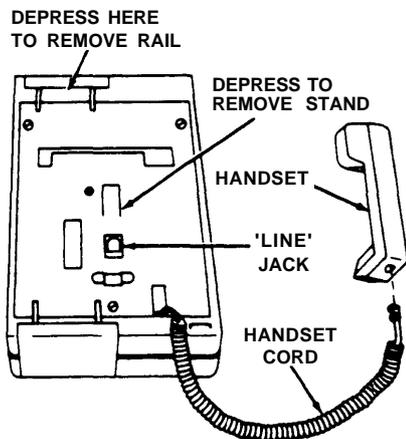

Figure 2
2. Turn voice terminal upside down and plug one end of handset cord into jack labeled with the drawing of the handset beside it (see Figure 2).
3. Plug the loose end of the handset cord into the handset (see Figure 2).